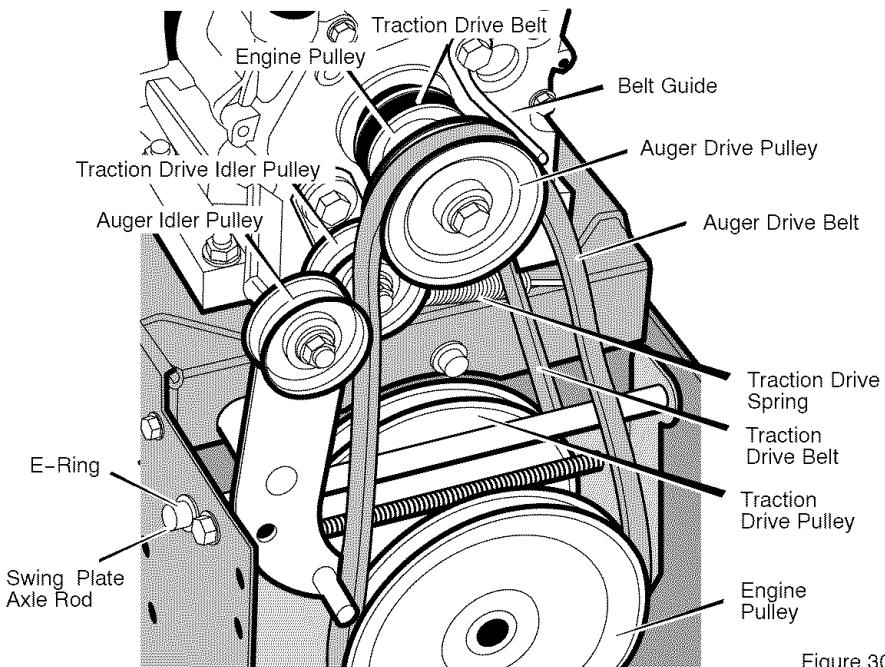

Figure 30
3. Loosen nut on auger idler pulley and move auger idler pulley towards belt about  $1/8$  inch (3 mm) (see Figure 30).
5. Loosen the **belt guide**. Pull the **belt guide** away from the **auger drive pulley** (see Figure 30).
9. Remove the old **auger drive belt** from the **auger drive pulley**. Replace the **auger drive belt** with an original factory replacement belt available from an authorized service center (see Figure 30).
3. Remove the **e-ring** from one end of the **swing plate axle rod**. Remove the **swing plate axle rod** to allow the swing plate to pivot forward (see Figure 30).